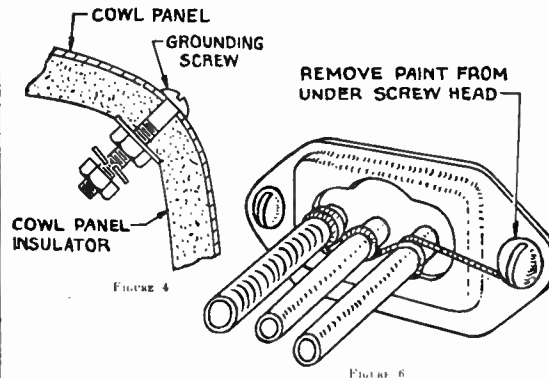

FIGURE 4
6. The shield pig-tail of the antenna lead must be grounded to the cowl. To do this, drill a $\frac{1}{4}$ " hole in the cowl in front of the hood line. Use an 8-32 bolt and connect the pig-tail eyelet under the nut. (See Figure 4).